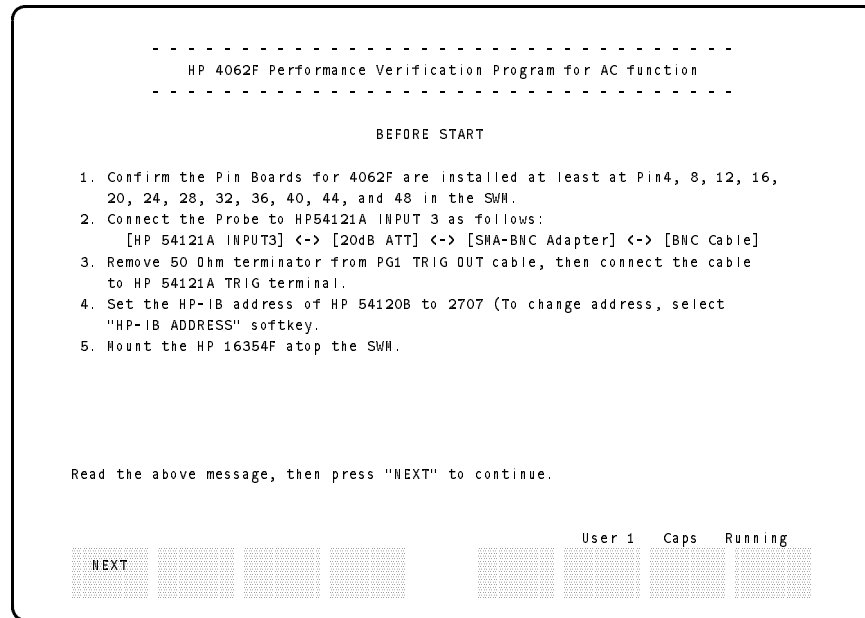

Figure 6-44. Preparation Page for 4062F AC
1. Select **4062F AC** softkey from PV4062.F main menu. Preparation page is displayed as shown in Figure 6-44. Confirm that you have prepared everything as described on this page.